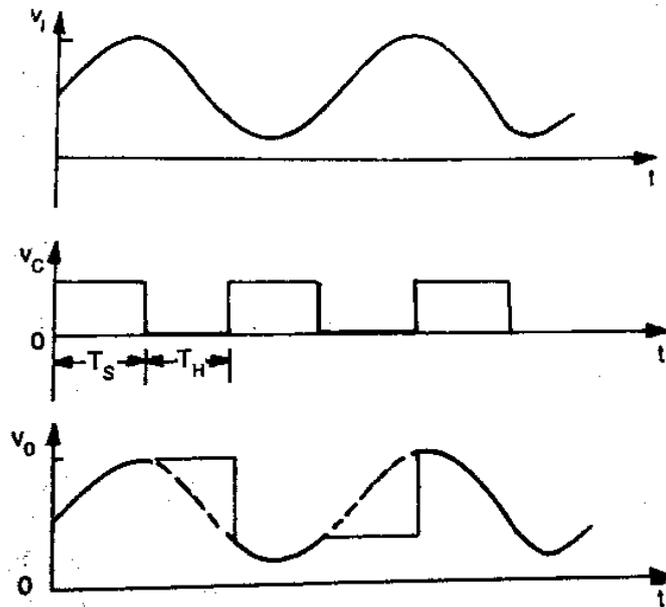

Fig. 3.53 Input and Output Waveforms
- The waveforms are as shown in Fig.3.53.